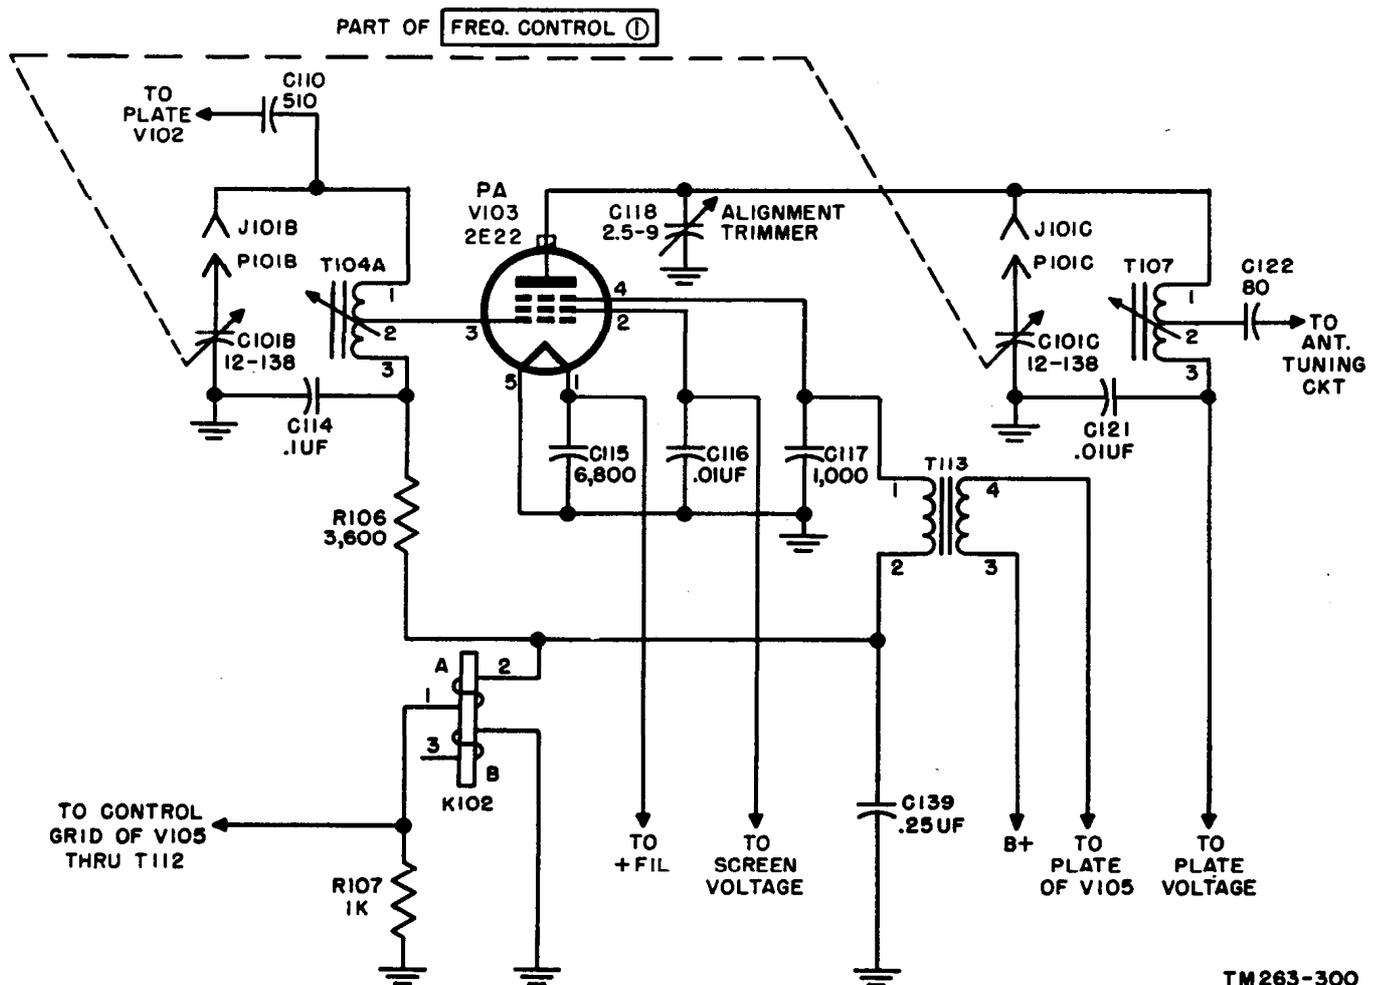
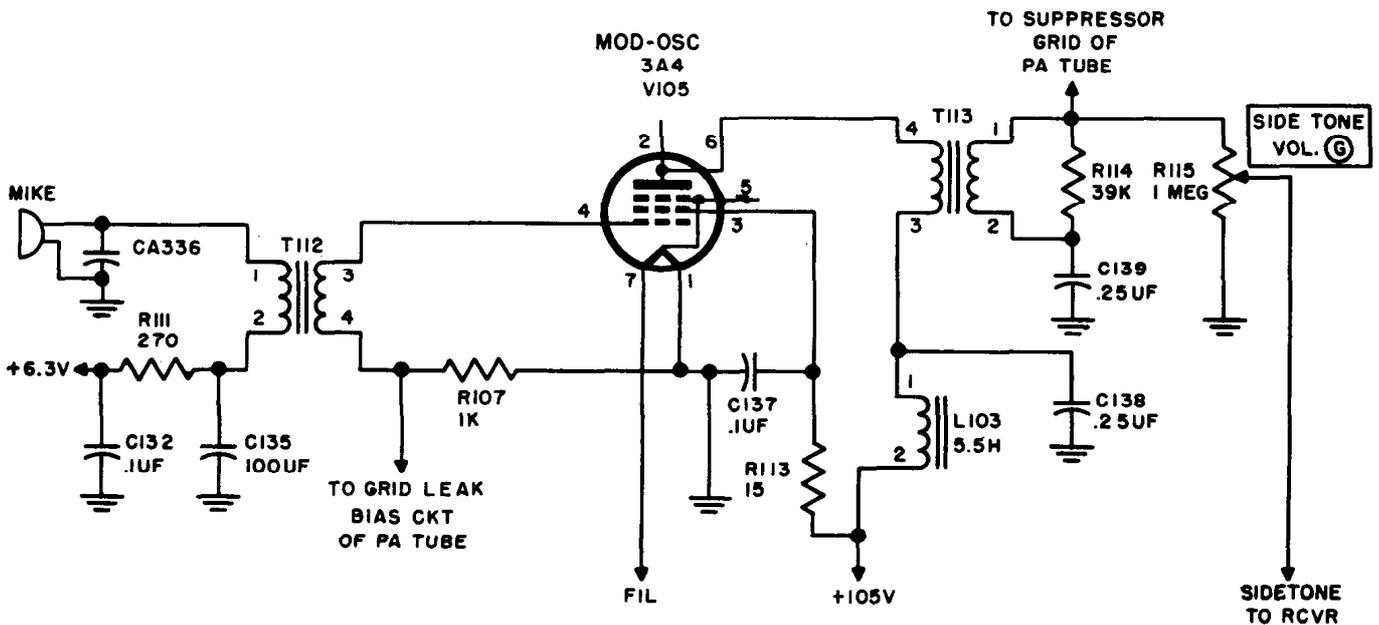

Figure 76. Pa stage, simplified schematic diagram.
Figure 85. Modulator (voice) stage, simplified schematic diagram.
(fig. 76)
b. *Microphone Circuit* (fig. 85). The af variations are fed from the mike to matching transformer T112 and then to the control grid of V105 to complete the signal circuit. The dc filament supply of the transmitter furnishes the proper excitation voltage for the mike. The mike current (dc) flows through the carbon granules of the mike, terminals 1 and 2 of the primary of T112, through current limiting resistor R111, and to the positive terminal of the filament supply to complete the dc excitation path of the mike. Capacitor CA336, located inside the mike, is a filter to bypass any disturbances set between the carbon granules. Capacitor C135 is a filter capacitor which is used to lessen microphone hiss. Capacitor C132 is a bypass to prevent interference from entering the filament supply.
c. *Am Operation* (fig. 85). The audio variations fed to the control grid are amplified and appear across the modulation transformer T113. The suppressor grid of the pa stage is connected in series of the secondary of T113 and biased by the negative voltage developed by the control grid current flowing through K102A and R106 (fig. 76). The modulation voltage, therefore, varies the voltage on the suppressor grid in accordance with the intelligence in the microphone.
- (1) The bias used on the modulator control grid, pin 4, is supplied from the pa